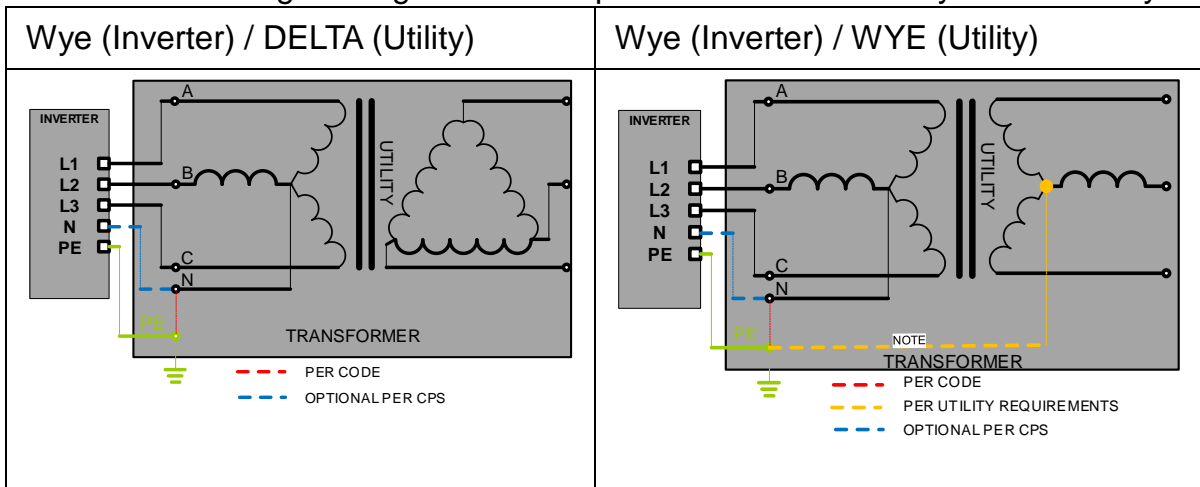

Fig 3-31 AC Acceptable Transformer Winding Configurations
- 6. Connector body tightening.** The back cap must be closed using a torque of approx 2.7Nm (24in-lbs). Amphenol specified hand wrench tool (H4TW0001) can be used in this step with the Amphenol open-end back cap spanner (H4TE0000) or socket wrench (H4TF000) as shown in Figure 3-31.